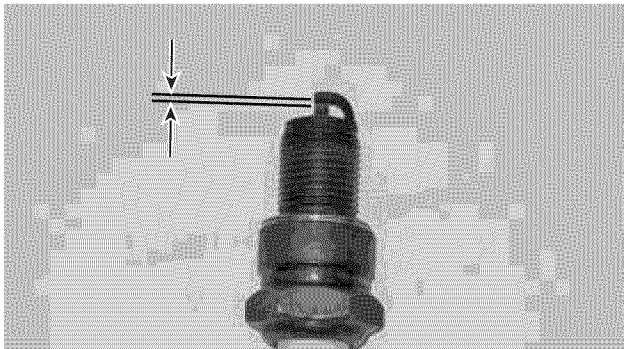

Figure 41 – Spark Plug Gap Requirements
- Spark plug gap (the acceptable limit of 0.024 – 0.032 in. [0.60 – 0.80 mm]) (see Figure 41).